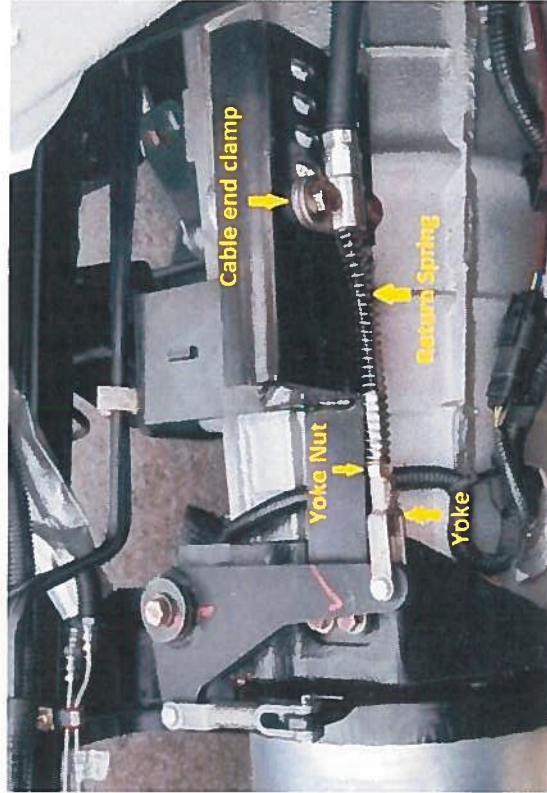

Figure 6 – Return Spring Installation
1. Locate where the parking brake cable attaches to the bellcrank at the parking brake drum (See Figure 6).